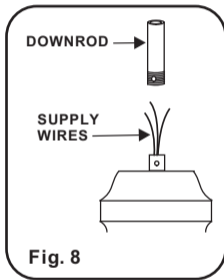

Fig. 8
Step 4. Carefully feed fan wires up through the downrod. (Fig. 8) Thread Downrod into the Coupling until the holes are lined up and secure with the Lock Pin and Hitch Pin previously removed, tighten Set Screws. (Fig. 9)